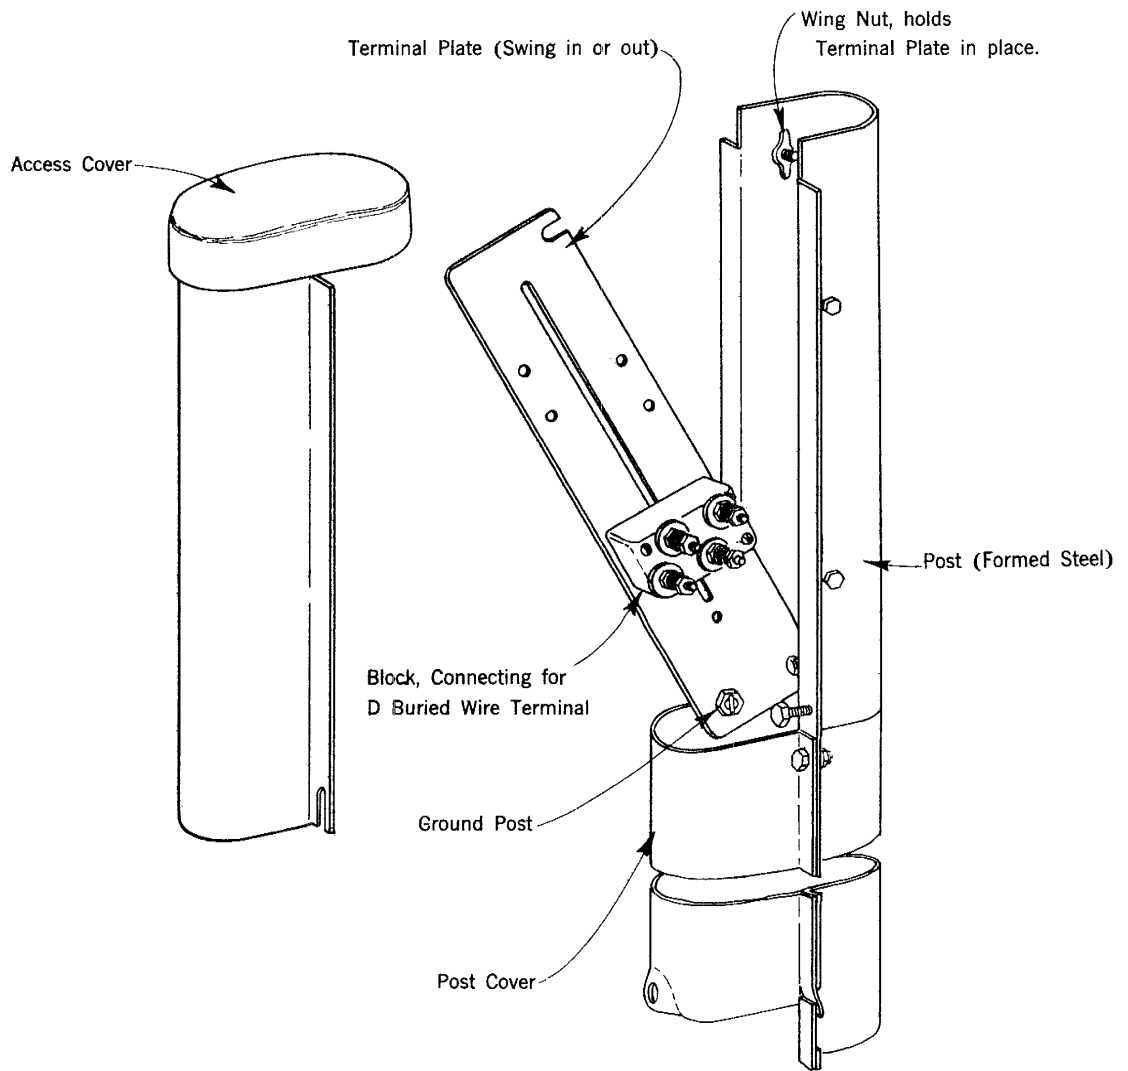

Fig. 1 – D Buried Wire Terminal
2.01 The D Buried Wire Terminal is illustrated in Fig. 1.